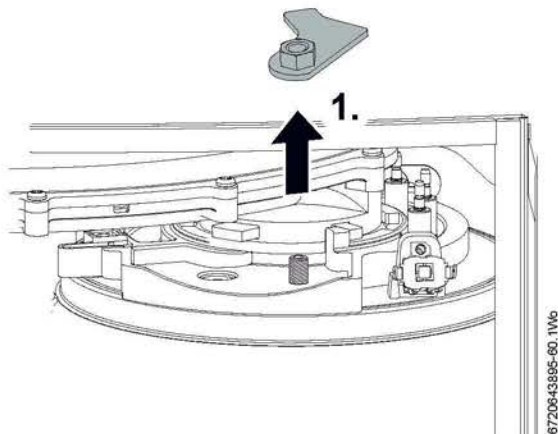

Fig. 63 Securing nut
1. Refer to figure 63 and undo the securing nut on the top of the heat exchanger and remove the retaining plate assembly.